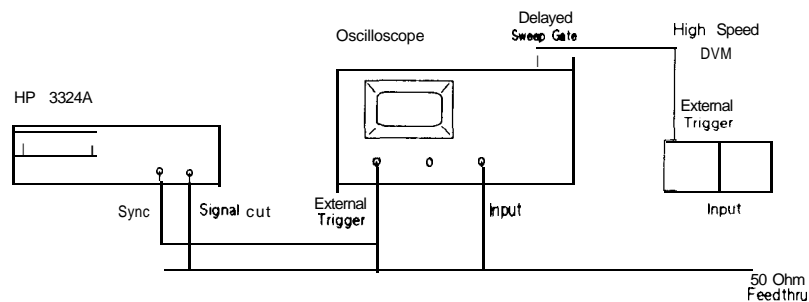

Figure 12-5. Function Amplitude Accuracy Test Set-Up
7. Function Test. Set up the equipment as shown in Figure 12-5.